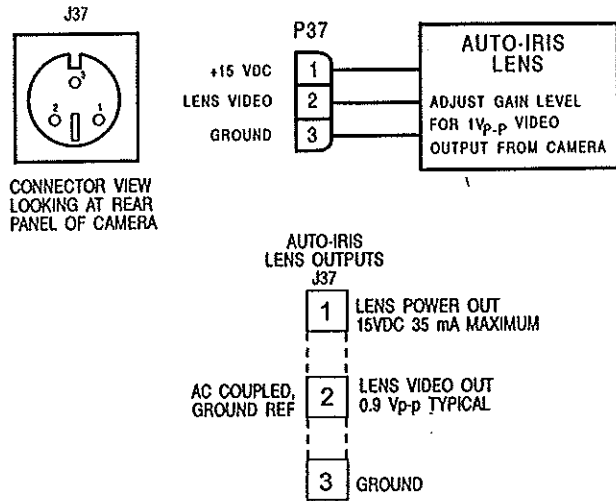

Fig. 11. Auto Iris Lens Connectors
5. If an auto lens is used, plug the lens cable (P37) into the lens connector (J37) on the rear panel (figure 11).